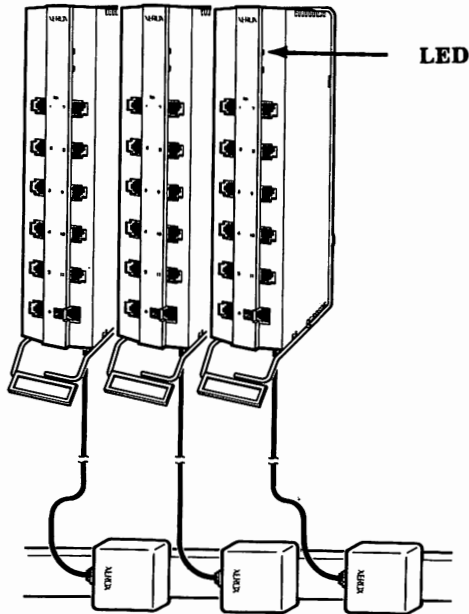

Figure 2-6. Installing several NEUs side by side
7. Insert the plug on the back of the power transformer into the wall outlet. If you are installing several NEUs at the same location, plug the power transformer into one of the outlets on a power strip (Fig. 2-6).
8. Be sure that the LEDs on the front of the NEU light up when the power transformer is plugged in (Fig. 2-6). If the LEDs do not light up:
9. Repeat Step 1 through Step 8 for each additional NEU that you install. If possible, install any additional NEUs to the right of the unit that has already been installed, as illustrated in Fig. 2-6, so that your NEUs can be labeled from left to right in numerical order.